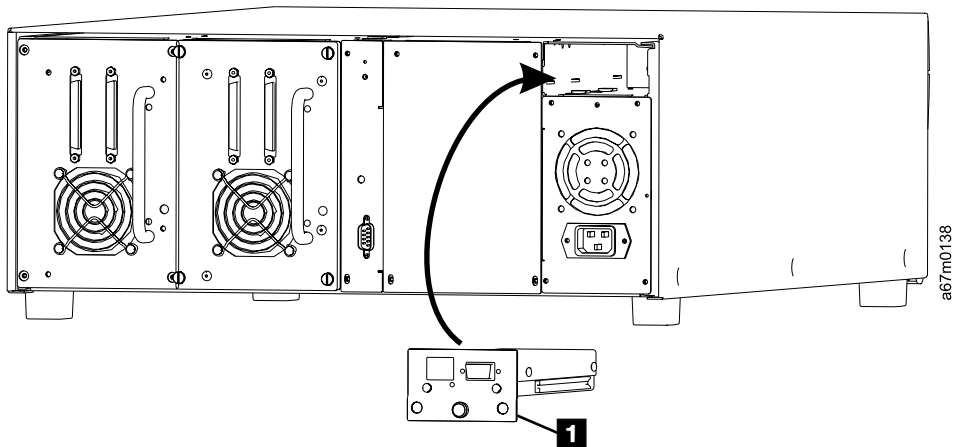

Figure 90. RMU module installation
3. Slide the RMU (see **1** in Figure 90) into position and tighten the thumbscrew.